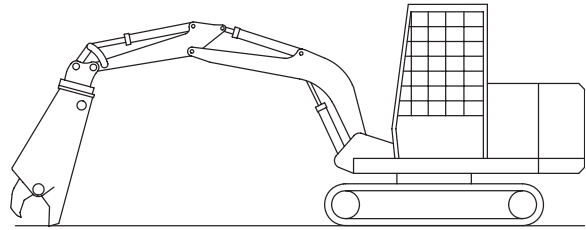

FIGURE 3-5
1. Locate flat, hard ground. With the bottom of the shear facing the operator, set the shear on the ground (figure 3-5).